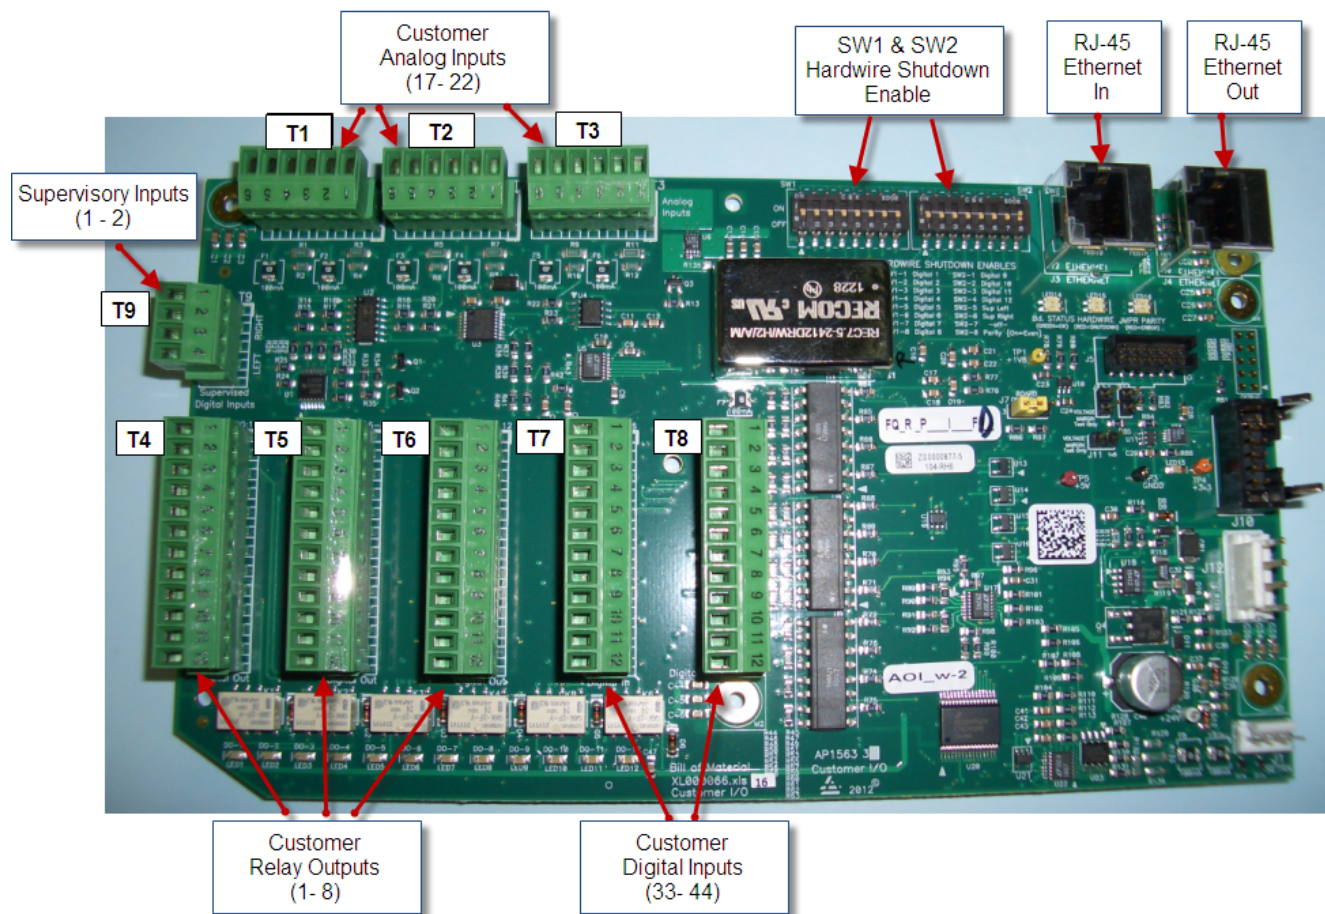

Figure 4.6a: AP1563 Customer I/O Terminal Blocks
* Each digital-input can be individually configured to provide a hardwire shutdown alarm function. Figures 4.6a and 4.6b optional Customer I/O PCBs provide the location of SW1 & SW2 hardwire switches.